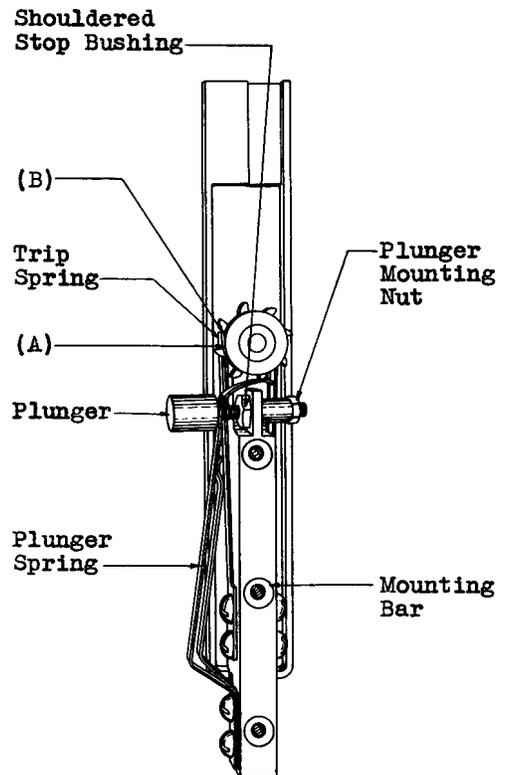

Fig. 5
(a) Fig. 5 (A) - With the plunger fully depressed and with the play of the ratchet wheel taken up in a clockwise direction, the shouldered stop bushing shall be so positioned that the clearance between the tang of the trip spring and the straight face of a ratchet tooth is:
(b) Fig. 5 (B) - With the plunger fully depressed, there shall be no tendency for the tangs of the trip springs to ride on the next ratchet tooth in any position of the ratchet wheel. Gauge by eye.
M-1 Before making any adjustments on the plunger spring that would change its shape, check the general profile of the spring against the standard shown in Fig. 5 and, if necessary, adjust the spring with the long nose pliers.